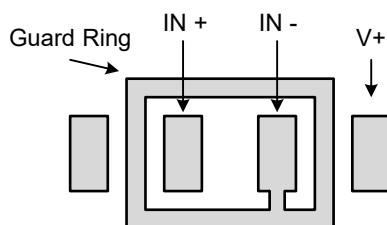

Figure 8-11. Guard Ring
6. Make sure the surface of the printed circuit board is clean and moisture-free. Use a surface coating to prevent moisture accumulation and help reduce parasitic resistance on the printed circuit board. Consider setting a low impedance guard ring (as shown in Figure 8-11) for the driver around the critical trace. The guard ring can significantly reduce the leakage current of nearby traces at different potentials.